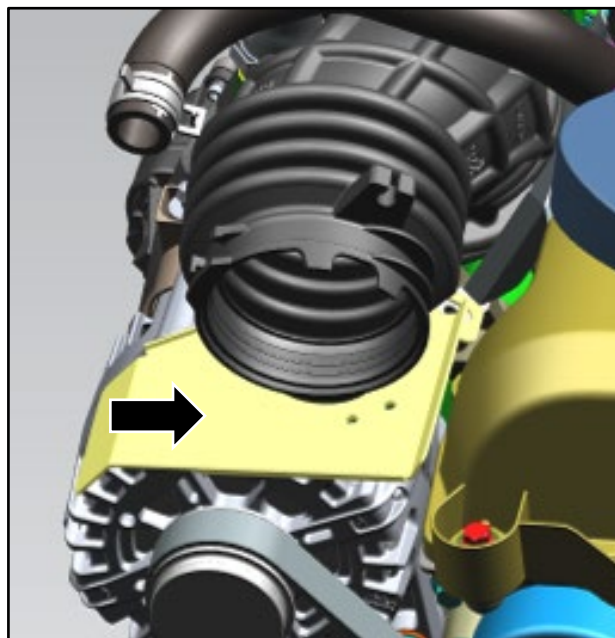

Figure 2
3. Install the alternator splash shield under the intake duct (refer to Figure 2).